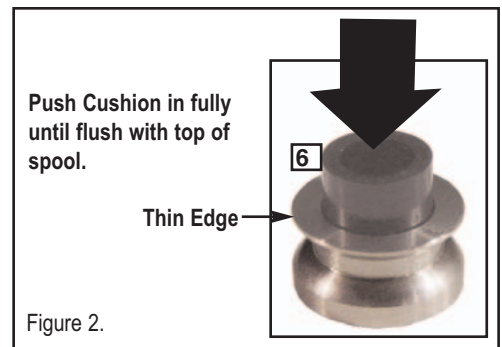

Figure 2.
**1.** Insert a Cushion into the side of each Upper Spool as shown in figure 2.